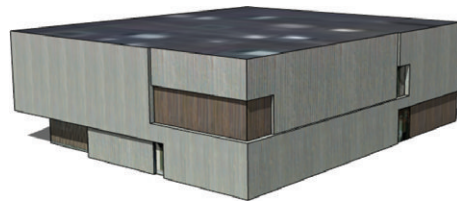

Figure 16.24 The Clyfford Still Museum context model with optimized texture images applied
4. To apply the new, optimized material, click on surfaces that have a lower-resolution texture image (Figure 16.24).